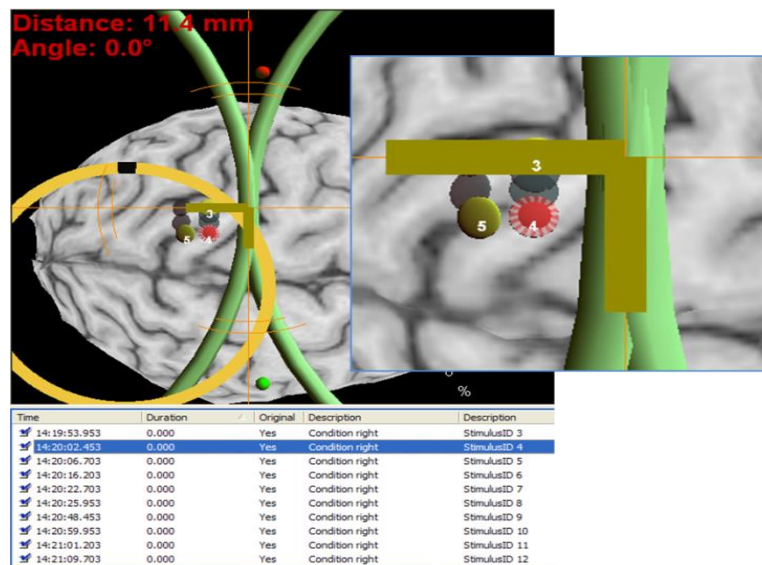

FIGURE 42: THE VIEW WHEN TARGETING AT THE HOT SPOT
- Select the task “Reproduce stimuli”. The “NeuroNavigation Targeting Stimulus” view will be displayed, as in Figure 42. Per default, you will see only those TMS Markers with a response exceeding the 75% of the maximal evoked response. The TMS Markers will be displayed together with a label, indicating their identification number.
- Select the TMS Marker you want to reproduce from the TMS Marker list, displayed in the bottom, as shown in Figure 42. The identification numbers of the TMS Markers are also displayed in the TMS Marker list. The selected TMS Marker will be highlighted, as shown in the enlargement of Figure 42. The targeting helper will assist you in reproducing the selected stimulus, as explained in Reproduce stimuli section.